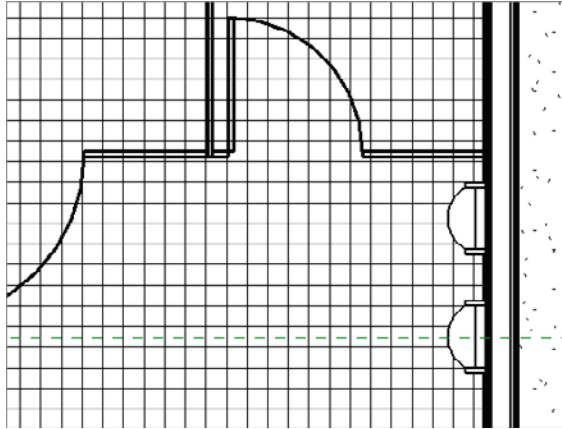

FIGURE 9.43 Adding the urinals to the men's room
5. Click the Component button, and place two urinals about 6" (150mm) away from the front of the stall, with a 1'-0" (300mm) space between the two, as shown in Figure 9.43.